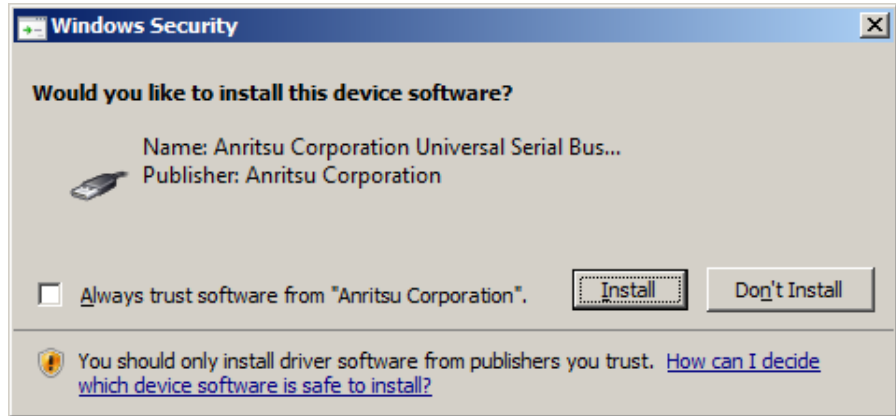

Figure 6.2-3 Confirmation Dialog of USB Driver Installation (3)
3. If MP1800A-x07 is installed, you will see the confirmation message shown in Figure 6.2-3.
The screens shown in Figure 6.2-2 and Figure 6.2-3 may not be displayed on the front page. If software installations take a long time, check that these screens are is hidden at the back of the other screen.